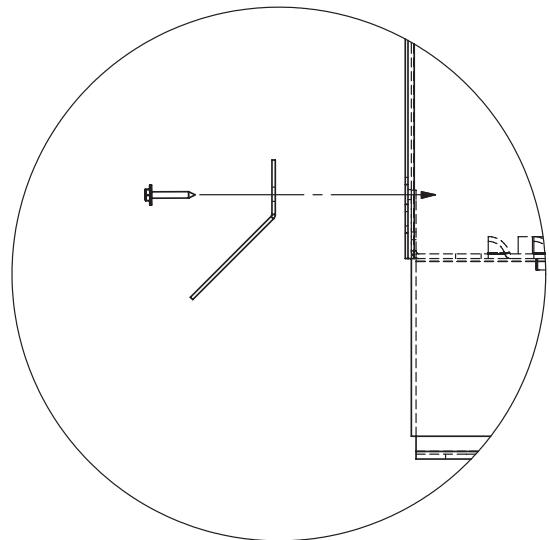

FIGURE 2 - RAIN DEFLECTOR
9) Line up the rain deflector mounting holes with the existing holes in the enclosure. Using the screws removed in step 8, secure the rain deflector to the enclosure - see figure 2.